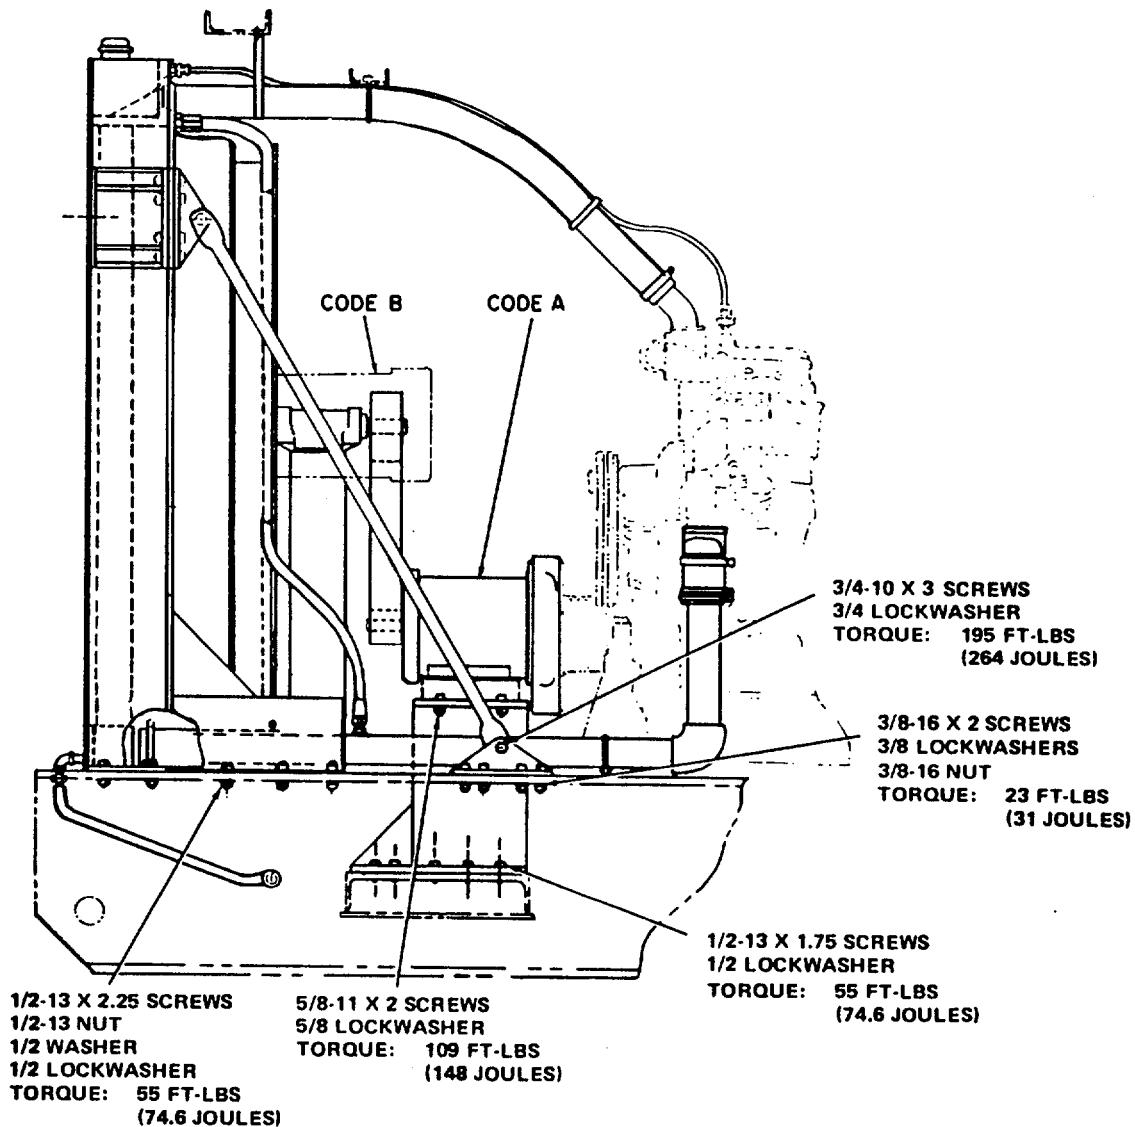

Figure 2-4. Radiator Assembly, Removal and Installation
- b. Installation. Install radiator assembly in accordance with paragraph 7-3 b or 7-7 b and torque screws as shown in figure 2-4.